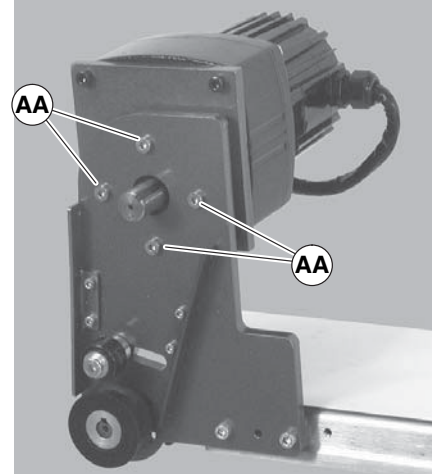

Figure 19
7. Remove four gear motor mounting screws (Figure 19, item AA). Remove gearmotor/adaptor plate Assembly.
10. Install gearmotor/adaptor plate assembly on mounting bracket with screws (Figure 19, item AA). Tighten screws to 103 in-lb (12 N-m).